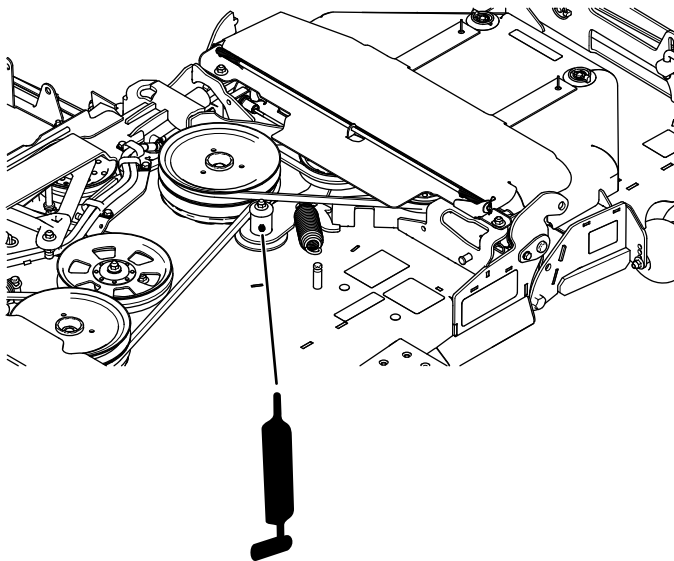

Figure 38
4. Grease the 2 drive belt idler arms (**Figure 38**).